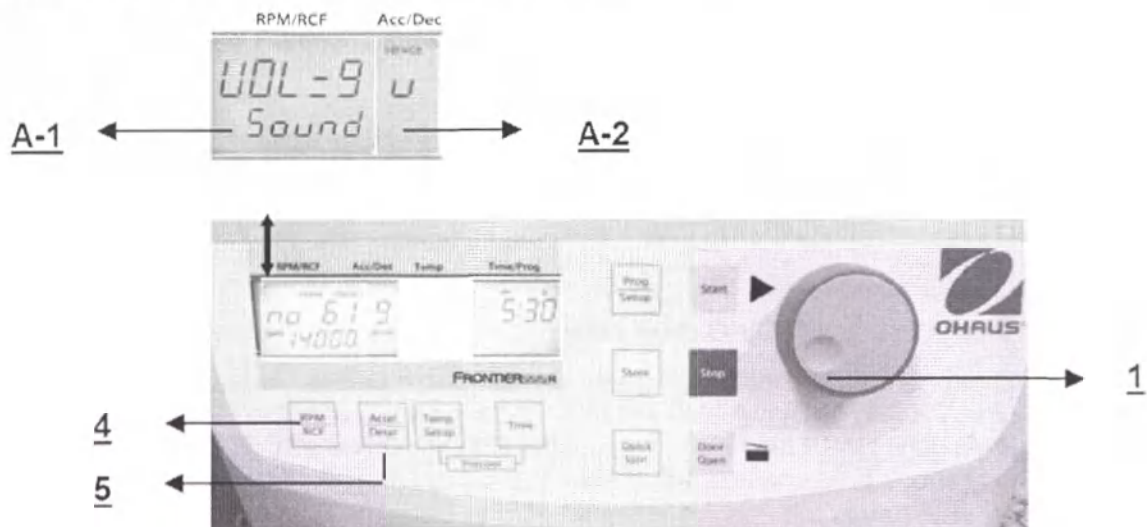

Fig. 34
Turn on the parameter setting mode, as described in Section 4.1.2, then press the key **Accel/Decel** (5). The word **Service** will blink in the field **Acc/Dec** (A-2). Turning the dial (1), select the symbol U. The text **Vol=0-9/Sound** will appear in the field **RPM | RCF** (A-1) in this case. By pressing the key **RPM | RCF** (4) using the dial (1), the acoustic signal volume can be selected within the range from 0 (minimum volume) to 9 (maximum volume) (see Fig. 34). After the settings are saved (see Section 4.1.2), the centrifuge shall be switched off and on again to go back to the normal operation mode.